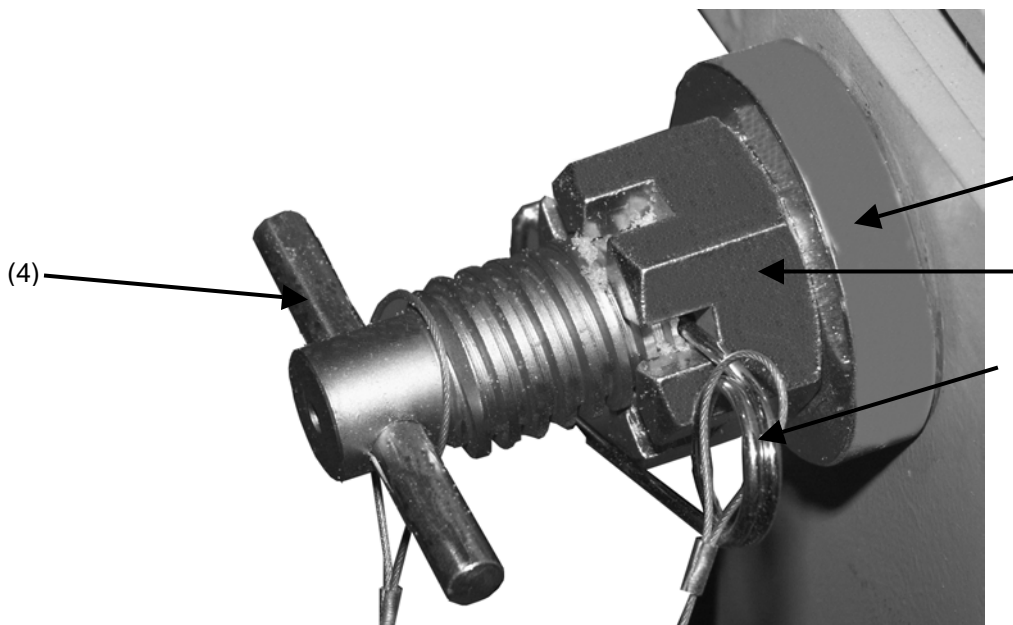

Figure 4-65. Block T-lock with pin.
- Using a 3/8" hex key (WP 0058 00, SATS Base Tool Component List), remove two bolts located on vertical from two corner gusset plates (1) (see Fig. 4-65) located on either side of jack.
1. Remove locking pin (3) from ISO block T-lock (Fig. 4-65) located on the ISO extension block, which is attached to trailer.